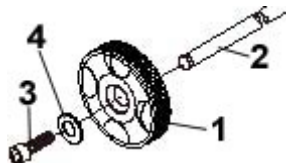

Fig. 14
- 3 Take one of the wheels ❶ and fix it to the axle ❷ using the relative screw ❸ and washer ❹ provided (fig. 14)